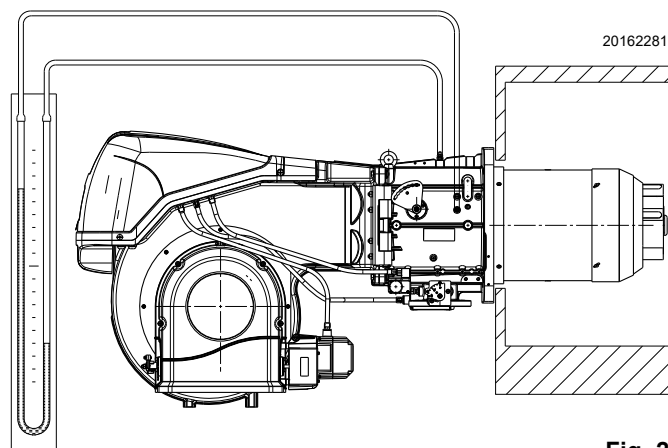

Fig. 20
- Fit a U-type pressure gauge or a differential pressure gauge (Fig. 20), with socket (+) on the gas pressure of the pipe coupling and (-) in the combustion chamber. The manometer readings are used to calculate MAX burner output using the Tab. L on page 22.
The arrival of gas at the pipe coupling is indicated by the U-type pressure gauge (Fig. 20).
As an indicative guide it can be taken from Tab. L on page 22, just read the gas pressure on the U pressure gauge (shown in Fig. 20 on page 25) and follow the instructions: